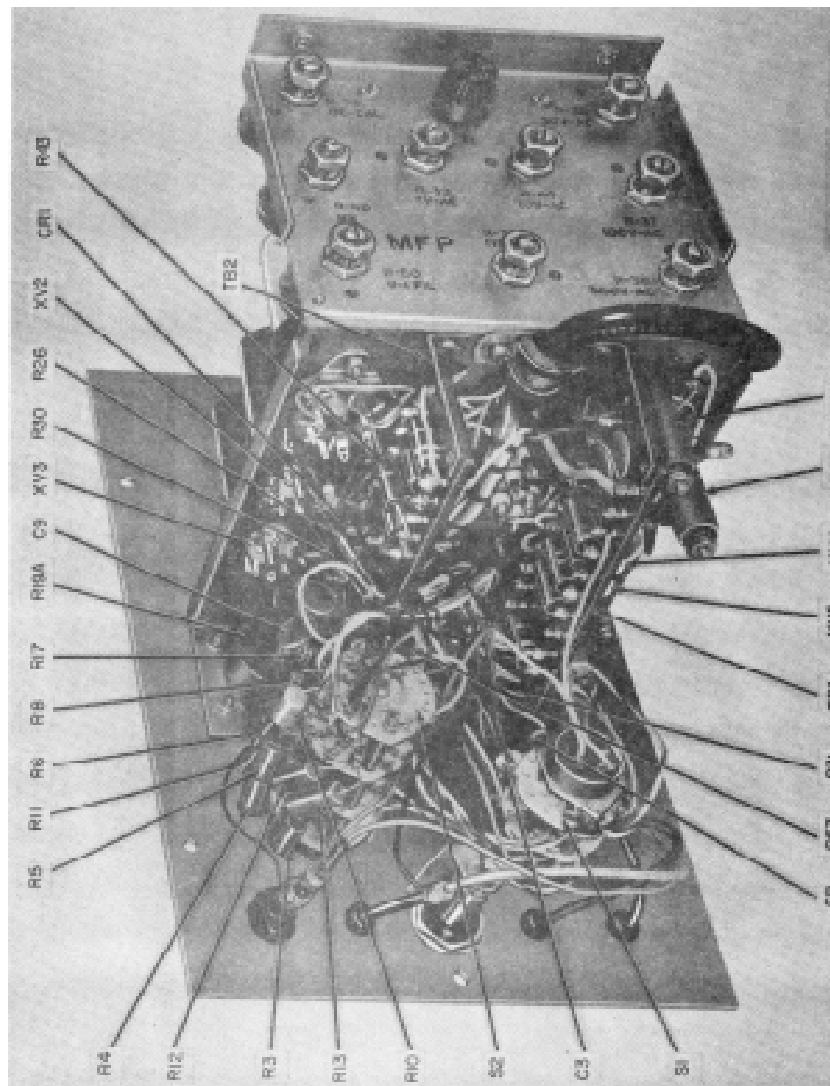

Figure 6-5. Multimeter ME-26A/U chassis, right side view.
b. Resistor R28 or R61 (or R51A in the ME-26A/U) open.	b. Replace resistor (fig 6-5 or 6-9).
c. Capacitor C4 shorted.	c. Replace capacitor C4 (fig. 6-5 or 6-9).
c. Capacitor C5 or C6 defective.	c. Replace defective capacitor (fig. 6-5 or 6-9).